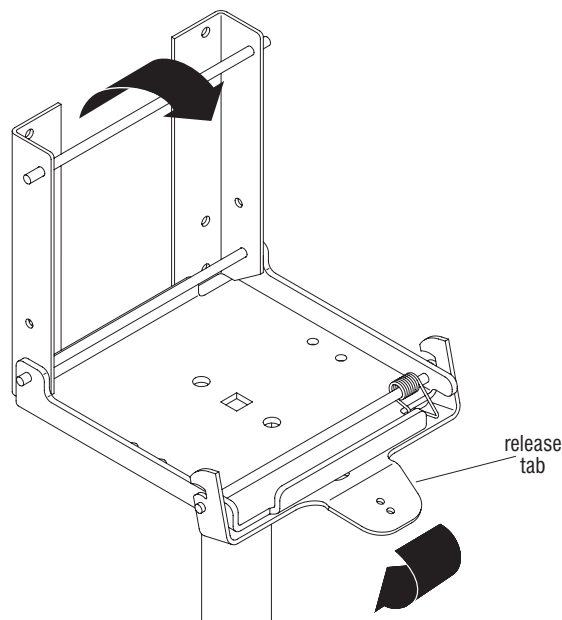

Figure 7
1. Pull top down until mechanism "clicks" shut (Figure 7).
1. Push down on release tab and lift up on table top (Figure 7).